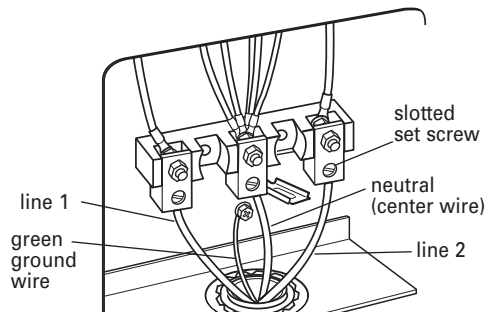

Figure 2
11. Connect the green ground wire to the range using the ground-link screw and cup washer. The ground wire must be attached first and must not contact any other terminal. See Figure 2.
12. Loosen (do not remove) the 3 slotted set screws. Insert the neutral (white) wire into the hole at the bottom of the center position lug (attached to center terminal screw black terminal block). See Figure 2.
14. Securely tighten the set screws. For 8 gauge copper wire, tighten to 25 in/lbs of torque, and for 6 gauge aluminum wire, tighten to 35 in/lbs of torque to make a proper electrical connection. See Figure 2.